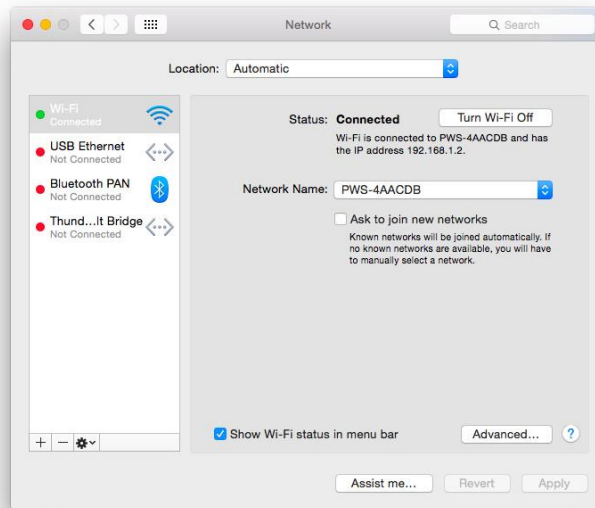

Figure 22
- b) **Example 2. Connect to the console WiFi server with a Mac.** Choose the Settings icon  and Network . Connect to the PWS- WiFi network, as shown in Figure 22 (your WiFi network name may be slightly different, but will always begin with PWS-).